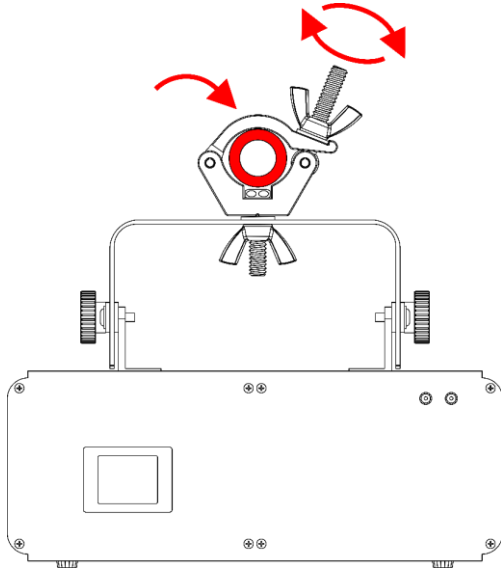
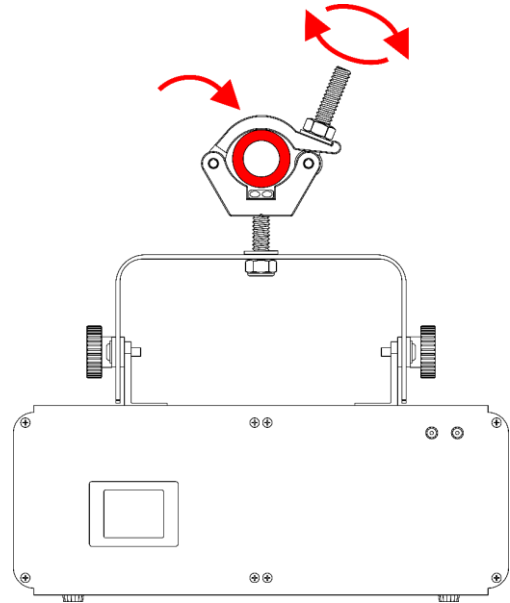

Fig. 07
Fig. 08
07) Put the device, with the installed load, around a tube ( $\varnothing$  32 mm) and close the **lock (11)**. See Fig. 07 or Fig. 08.
08) Put the **hex nut (01)** (fixed installation, Fig. 08) or the **wing nut (02)** (temporary installation, Fig. 07) on the **hex bolt (03)** and turn it clockwise, to tighten the device around the tube.